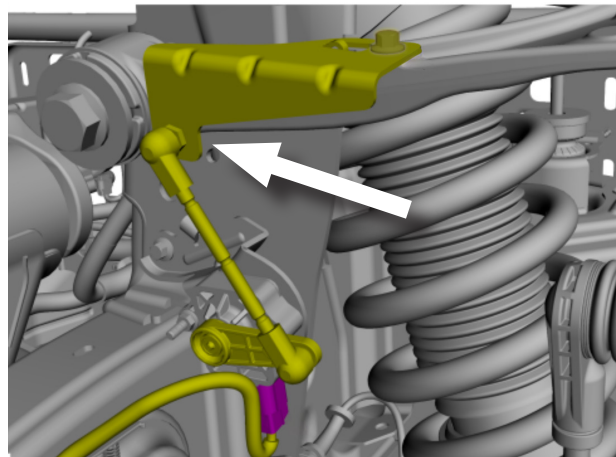

Fig. 1: Disconnect sensor linkage.
6. Disconnect the position sensor linkage from the stock UCA bracket. Retain the OE ball stud and nut for reuse (Figure 1).